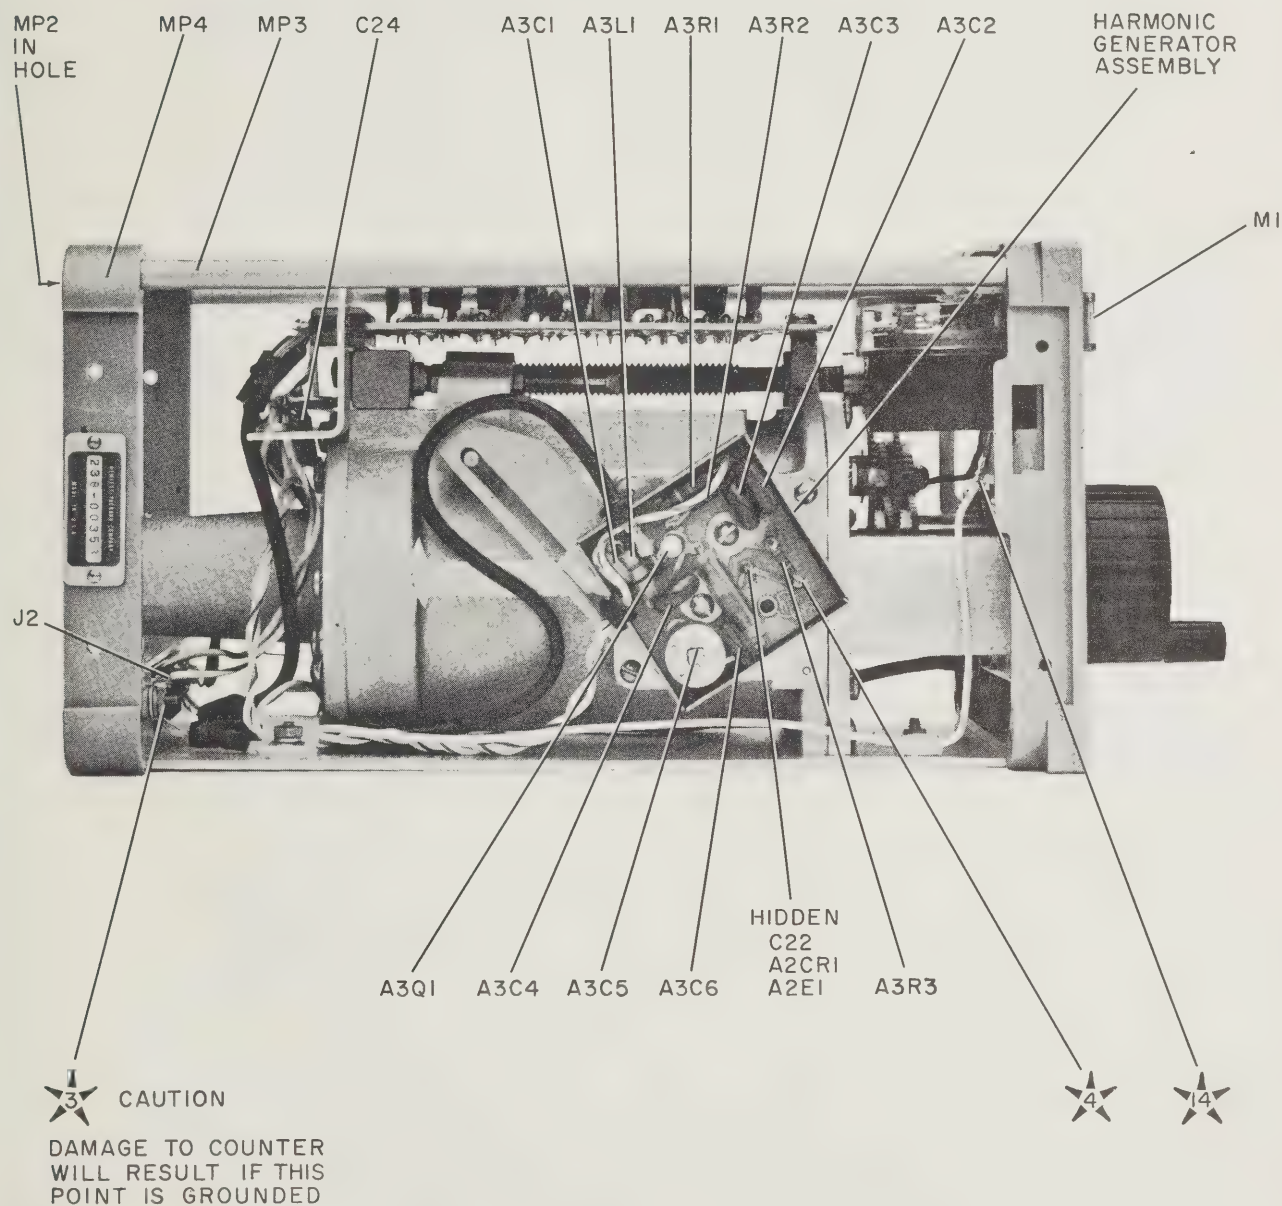

Figure IIA-5. Left Side View
c. Connect RF Millivoltmeter to Test Point #13 (see Figure IIA-5).
f. Using plastic tuning tool, tune A3C5 (see Figure IIA-5) for maximum reading on RF Millivoltmeter. Tune A3C5 through hole in harmonic generator assembly shield cover.